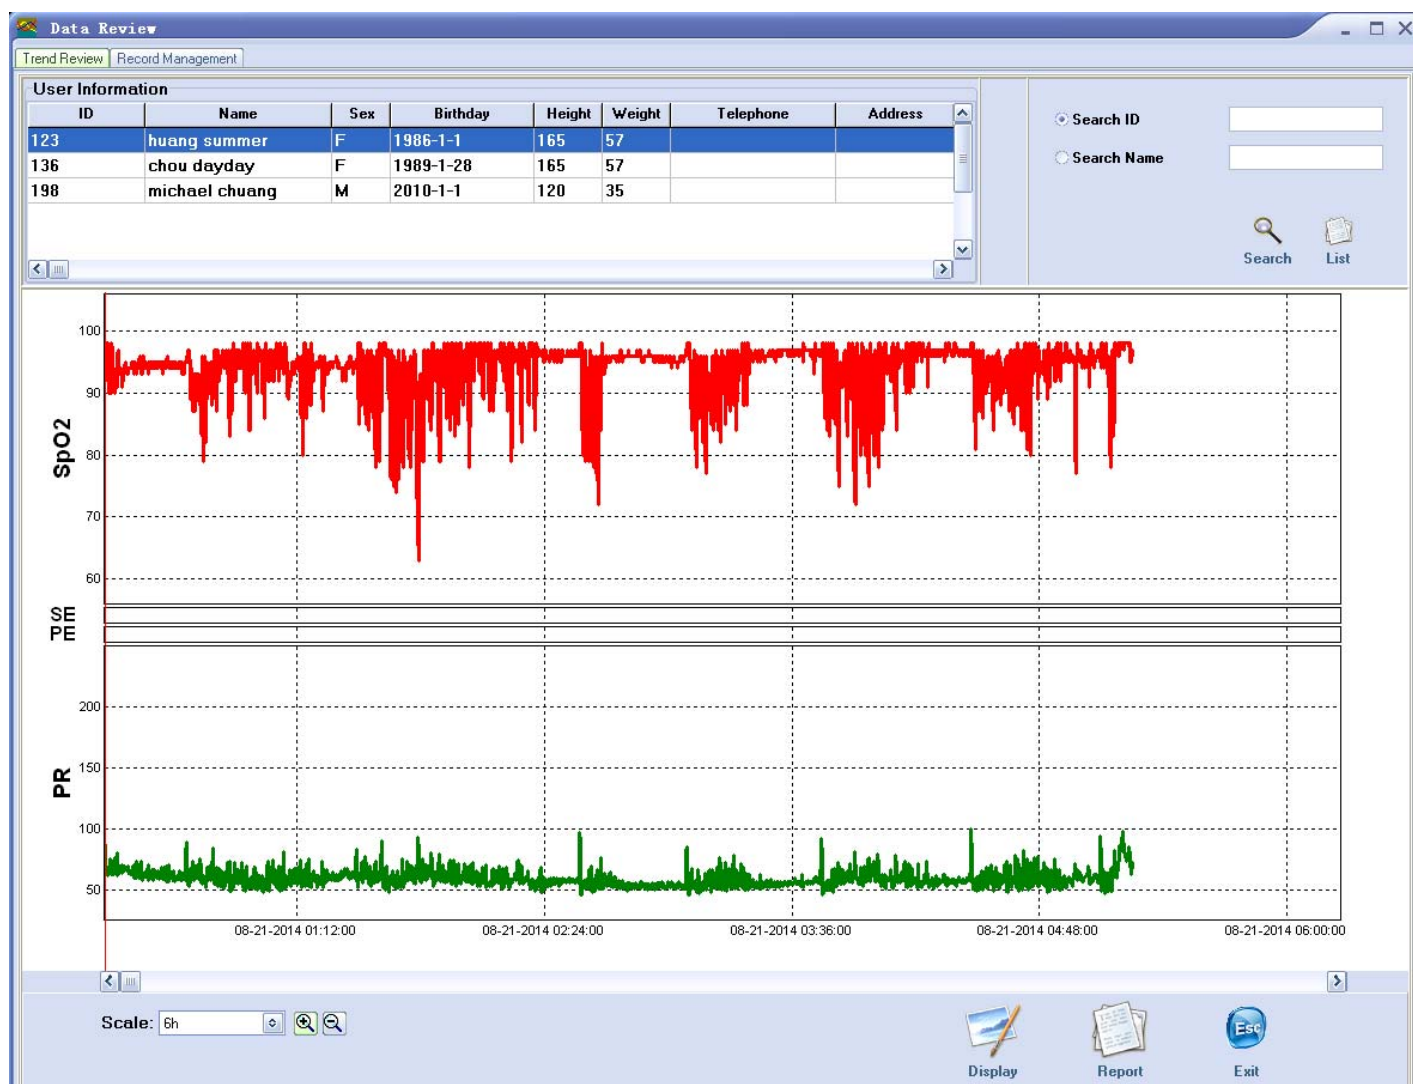

Figure 3-6
- Select a member in archive list, and then click on "Display" button. All the SpO₂ and pulse rate graphic trends of this patient will be displayed in graphic trend area (as shown in Figure 3-6)